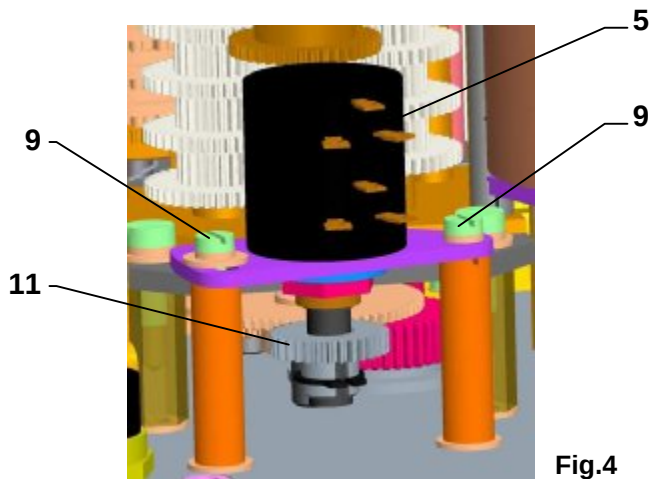

Fig.4
- Turn the position indicator disc (32) to bring a mark identified with a symbol for the „close" direction in coincidence with a mark on the upper cover aperture (If it is difficult to turn the wheel, release the screw using the screwdriver to fix the wheel).
- Turn the upper part of the position indicator disc (32) to bring a mark identified with a symbol for the „open" direction in coincidence with the mark on the upper cover aperture.
4.5 Adjustment of resistant transmitter (Fig.4)